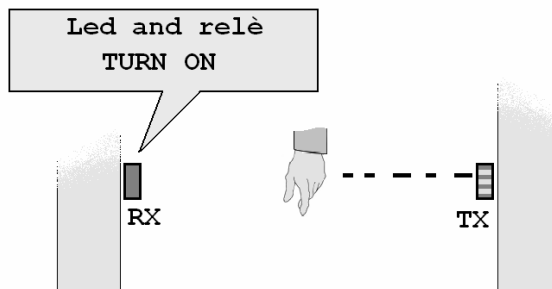

FIG. 9
- 4)** Feed the photocells and check the line between the photocell (RX) and photocell (TX) . The led of photocell (RX) turns on when the infra-red beam is interrupted (fig. 9).
- 6)** Make the working test WITH THE COVERS ASSEMBLED = Stay near the photocell (RX) , when the infra-red beam is interrupted the relè switches over (fig. 9).